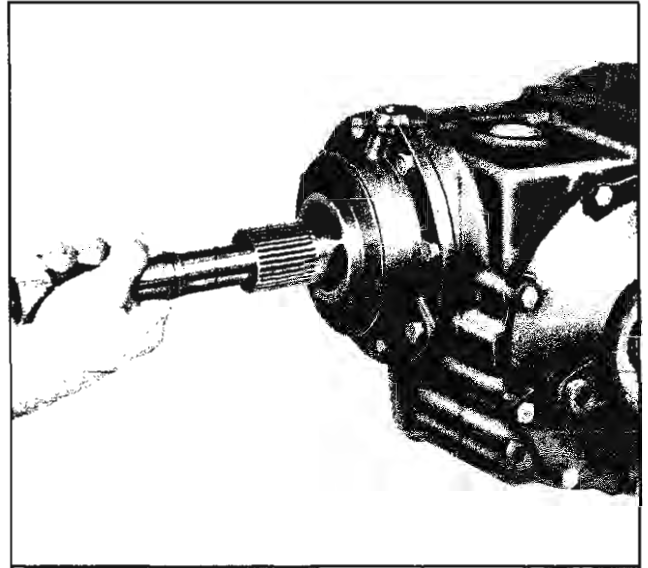

Fig. 7A-29 Removing Turbine Shaft
9. Loosen low band adjusting screw jam nut and fully tighten low band adjusting screw (Fig. 7A-30).